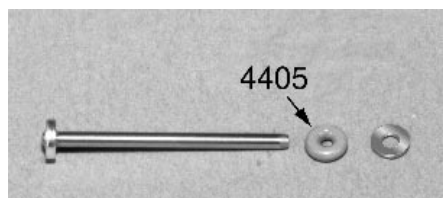

Fig. 58
**Figs. 58, 59 & 60** Now we can begin assembly of the Delta shock. **Note:** Associated does not have individual replacement parts for the Delta shock, unless you see an Associated part number indicated in the photos and written instructions. We will start by removing the #4445 small red O-ring, the Delta shock piston/shaft assembly and the small brass washer. Slide the #4445 O-ring onto the piston/shaft assembly followed by the brass washer. Push them down against the shock piston. Next remove the Delta aluminum shock body, the black nylon spring adjusting collar and one #6274 plastic ball end cup from bag #6. Thread the black nylon spring adjusting collar onto the shock body. Make sure the hex portion is away from the large end of the shock body. Thread it on just enough for all the threads on the adjusting collar to be on the shock body. Now thread the #6274 plastic ball end cup onto the small threaded nipple of the shock body. Again thread it down to the end of the threads.